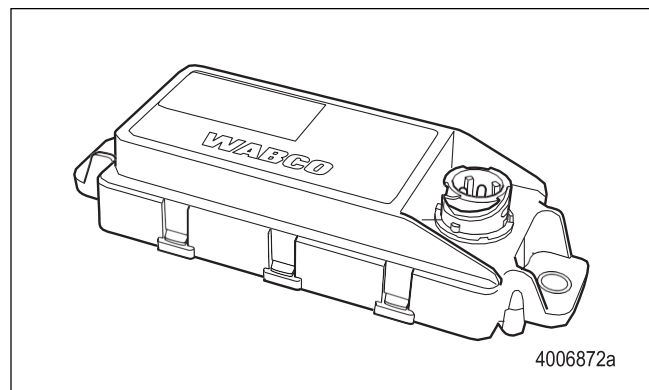

Figure 4.16
4. Disconnect the wiring harness connector from the ESC module. Figure 4.16.